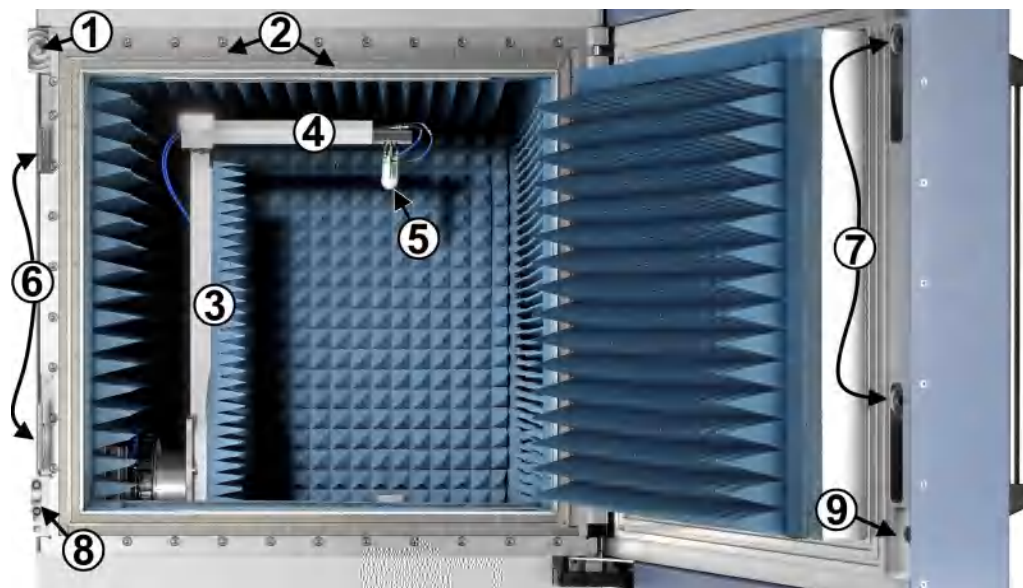

Figure 4-2: Front view of the R&S ATS1000
Opening the door switches on the light in the chamber's ceiling and releases the interlocks, see Figure 4-2.
When the door (1) is open as in Figure 4-2, you can access the chamber's interior to insert and connect a DUT. In the interior, an **expert user** can configure the DUT holder, align the positioners and exchange the measurement antenna. The interior has the following features: